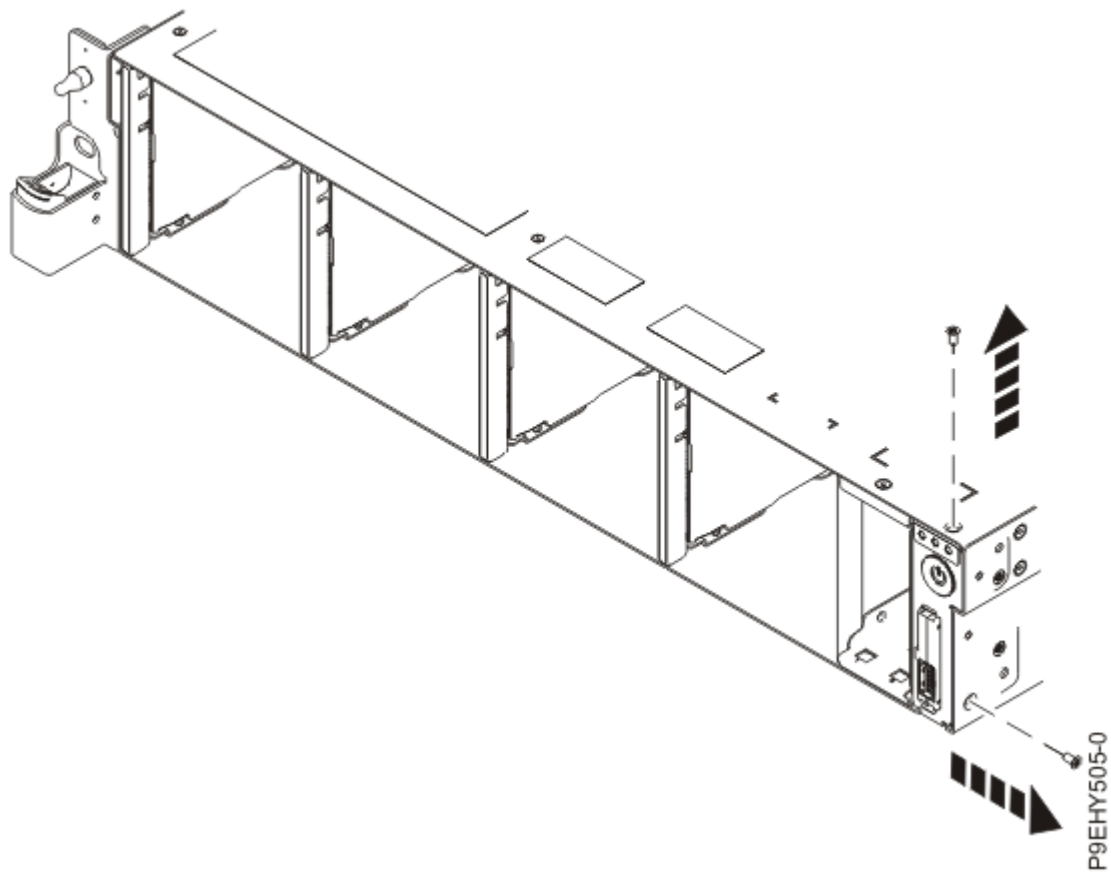

Figure 105. Remove the top and side screws
7. Remove the top and side screws from the power switch as shown in Figure 105 on page 119.